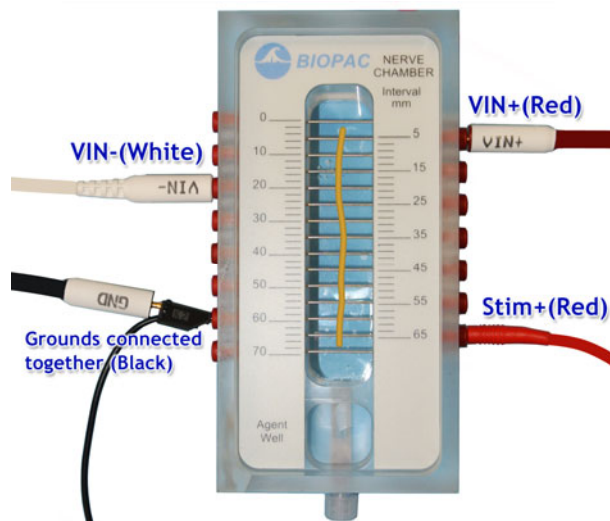

Figure 18
1. Move both the VIN+(red) and the VIN-(white) leads an equal distance (d) towards the Stim+ lead as in the example setup shown in Figures 18 and 19.
1. Make sure the VIN+ lead is as far from the Stim+ lead as possible but still in contact with the nerve (see Figure 18).